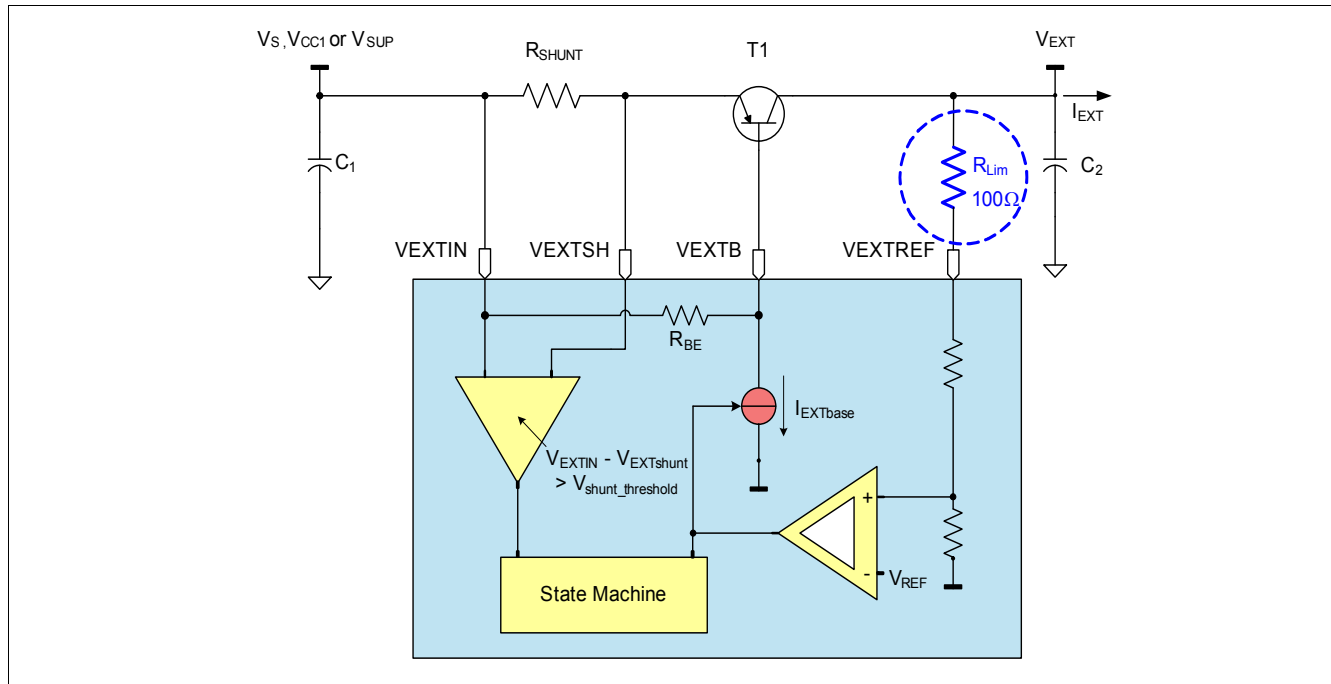

Figure 16 VEXT Hardware Setup
*Note: If the VEXT output voltage is supplying external off-board loads, the application must consider the series resonance circuit built by cable inductance and decoupling capacitor at load. Sufficient damping must be provided(e.g. series resistor with capacitor directly at device or 100 Ω Resistor between PNP collector and VEXTREF with 10 µF cap on collector (see **Figure 16**).*
Figure 16 shows the hardware set up used.